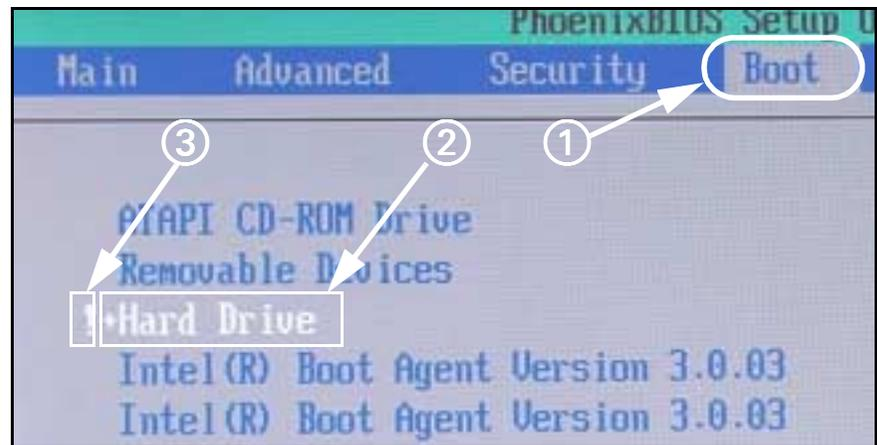

Figure 3-14 Setup Utility Window
3. At PhoenixBIOS Setup Utility window, use MDS keyboard left/right arrow keys to Select *Boot* Tab (① in Figure 3-14).
4. Use MDS keyboard Up/Down arrows to Select *+Hard Drive* (② in Figure 3-14).
6. Verify that an exclamation point **!** appears to the left of *+Hard Drive* (ⓐ in Figure 3-14).